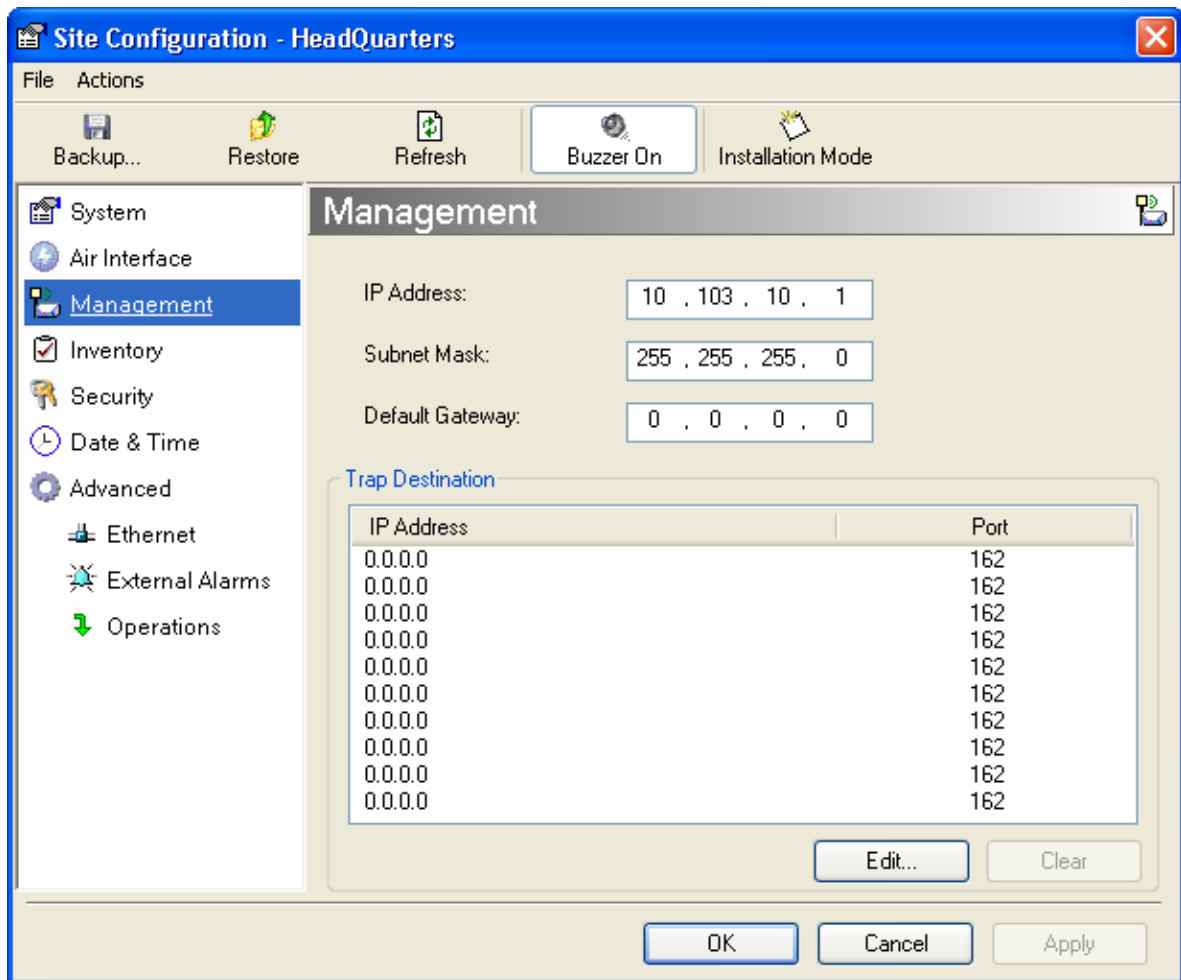

Figure 4-14. Configuration, Management
3. Select Management (see *Figure 4-14*).